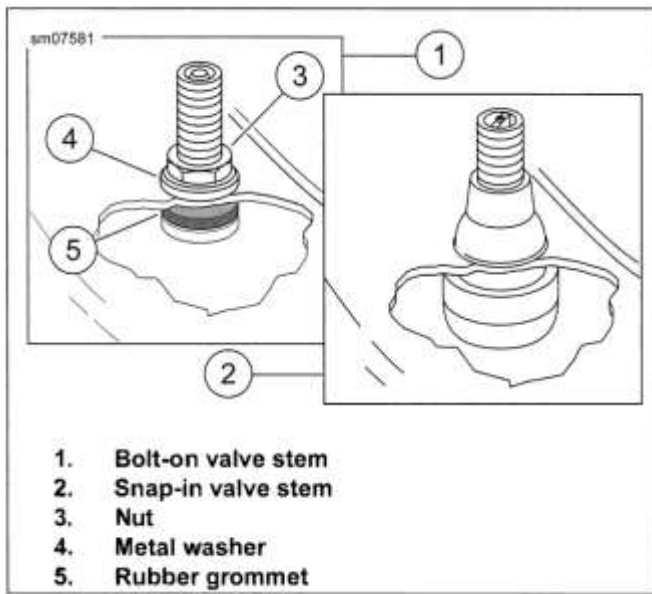

Figure 3-37. Tubeless Tire Valve Stems
1. See Figure 3-37. Metal valve stem.
- a. Install rubber grommet (5) on valve stem.
- c. Install metal washer (4) and nut (3). Tighten. Torque: **12-15 in-lbs (1.4-1.7 N-m) Valve stem nut**